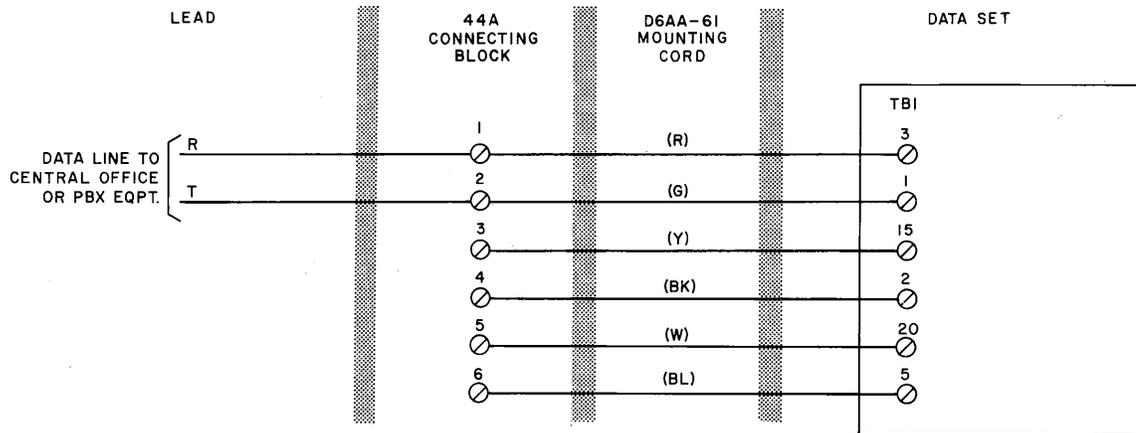

Fig. 7—Data Set 401J2 or 401J4, Connections (D6AA-61 Cord)
- (b) The arrangement for Data Sets 401J2 or 401J4 is shown in Fig. 7.